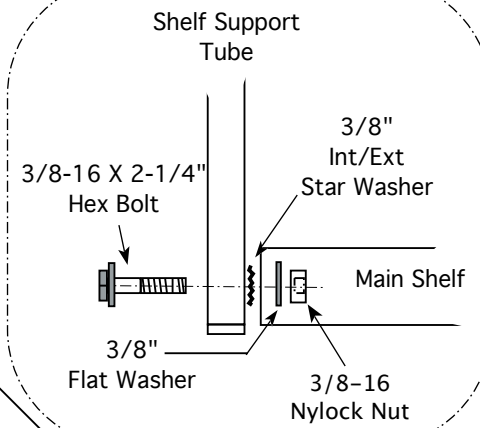

**Figure 6**
- 3) Insert the second set of strut nuts into the mounting rail as shown in figure 6 on page 4 about 28" above the first set. Now attach the second set 2 right angle mounting brackets to the mounting rail as shown in page 4, figure 6.